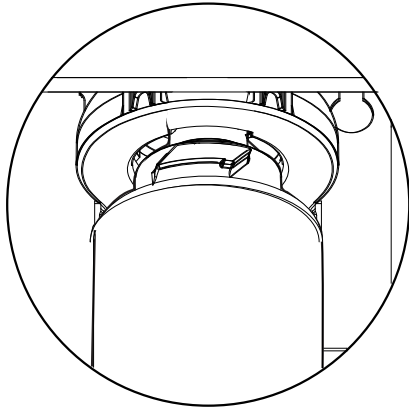

Figure 12
1. Line up the tabs with the slots in the opening on the left side of the head assembly. See Figure 12.
1. Line up the tabs with the slots in the opening on the right side of the head assembly. See Figure 12.